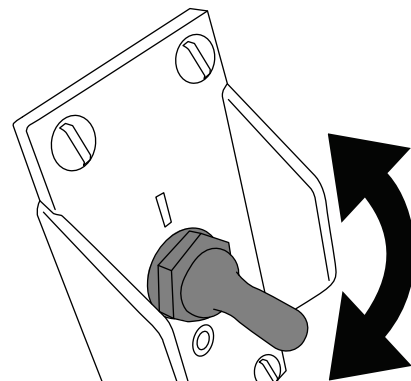

Figure 7
1. To start the motor, move the On/Off switch **up** to the On position (Figure 7).